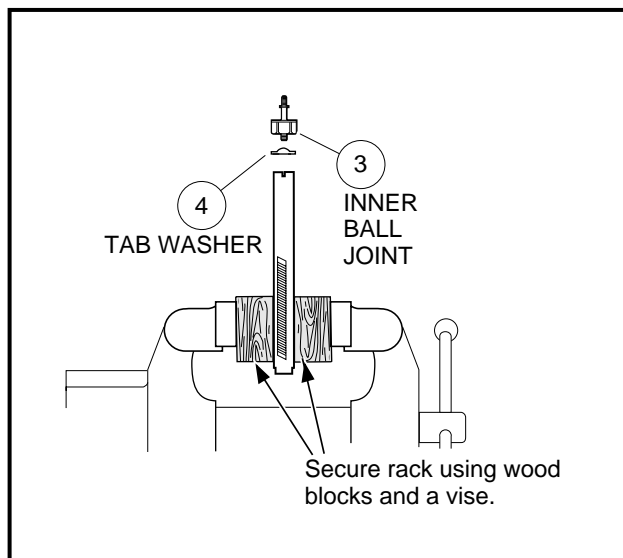

Figure 7-11 Secure Rack in Vise
13. If the inner ball joint (3) is excessively worn, remove the ball joint and tab washer (4) from the rack by securing the rack in a vise **(Figure 7-11, Page 7-9)**. Using wood blocks between the rack and the jaws of the vise to protect the rack from damage, loosen and remove the inner ball joint with a wrench.
1. Install a new tab washer (4) and an inner ball joint (3) **(Figure 7-11, Page 7-9)**. Install the ball joint onto the rack by securing the rack in a vise using wood blocks between the rack and the jaws of the vise to protect the rack from damage. Tighten the ball joint to 60 ft-lb (81 N·m).
2. Bend the edges of the tab washer (4) up against the ball joint (3) **(Figure 7-11, Page 7-9)**.